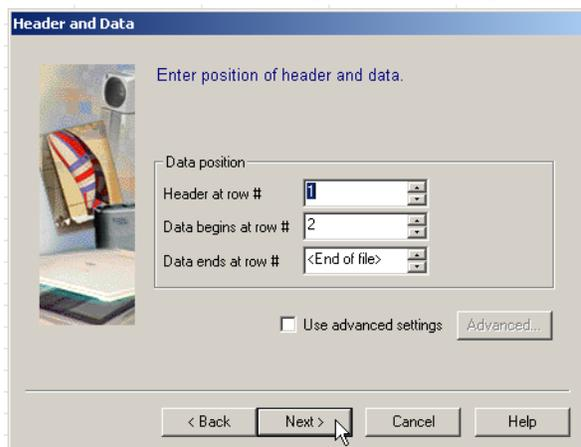

Figure 15 Header and Data dialog box
5. The Header and Data dialog box opens (Figure 15):
- a. Enter the appropriate rows in the text boxes as shown in Figure 15 (if they are not entered by default).